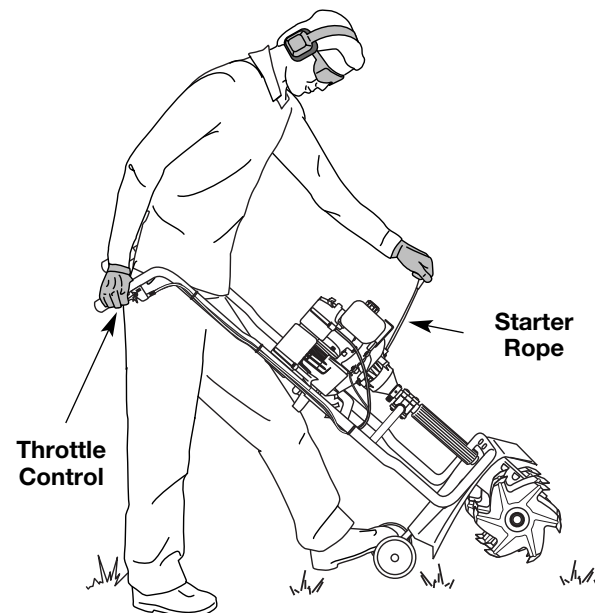

Fig. 8
**WARNING:** Avoid accidental starting. Make sure you are in the starting position when pulling the starter rope (Fig. 8). To avoid serious injury, the operator and unit must be in a stable position while starting.
5. Stand between the handlebars and support the unit by placing your left foot on the wheel bracket assembly and gripping the handlebar grip with your right hand (Fig. 8).